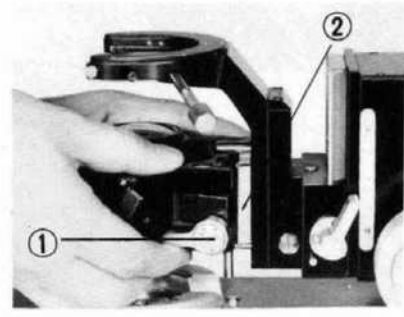

Fig. 4
3. Attach the Auxiliary Lens System.(Fig. 4)